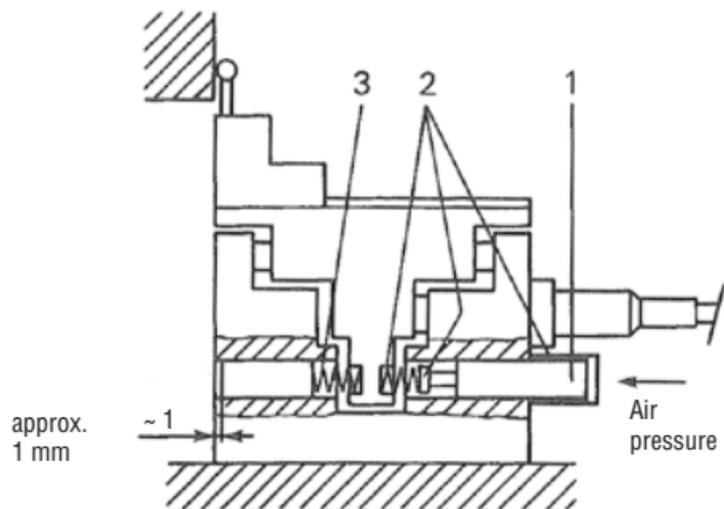

Fig. 4.
As shown in Figure 4.
When set up as in Figure 4
1. Set up the retraction system as shown in Fig. 4